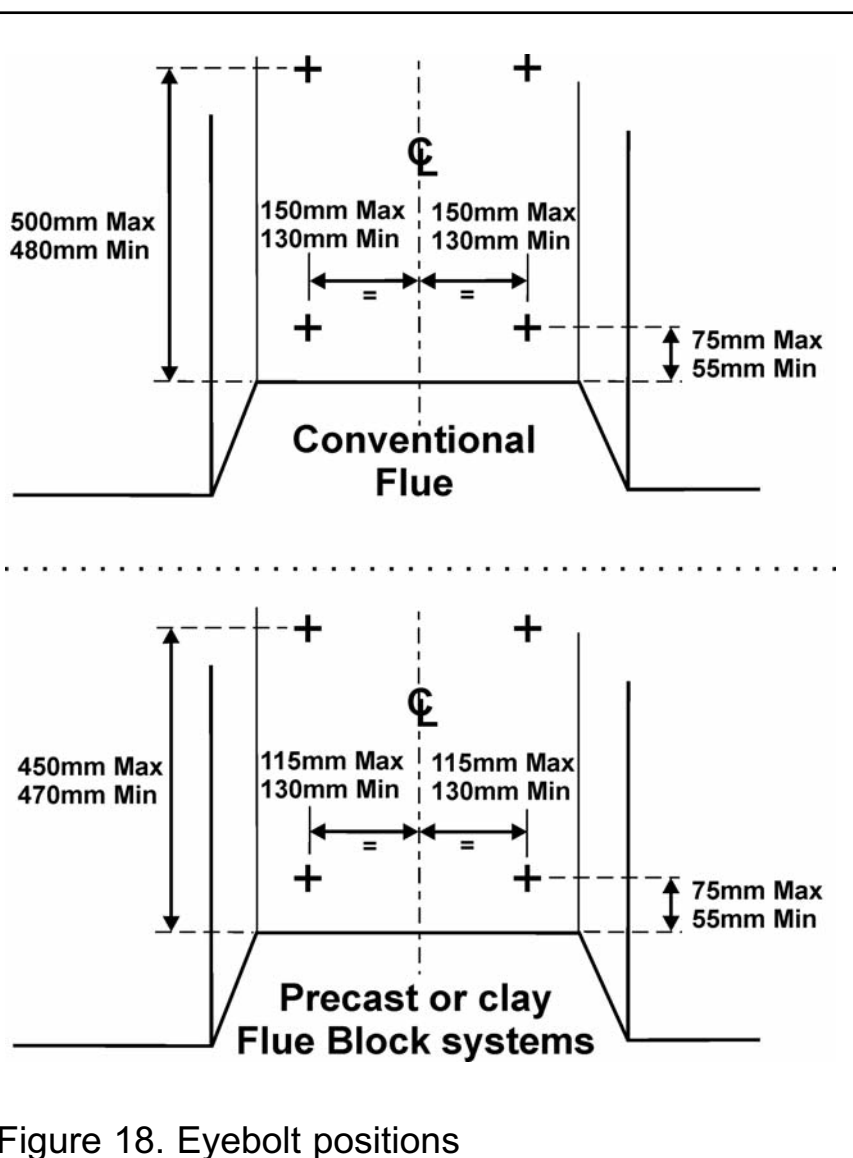

Figure 18. Eyebolt positions
2. Drill four holes in the rear wall of the fireplace for the eyebolt plugs. The holes should be drilled within the range of positions shown in figure 18 using a suitably sized masonry drill for the fibre plugs supplied. The holes should be equidistant each side of the centre line of the fireplace to ensure that the appliance finishes centrally in the opening when tension is applied to the cables.